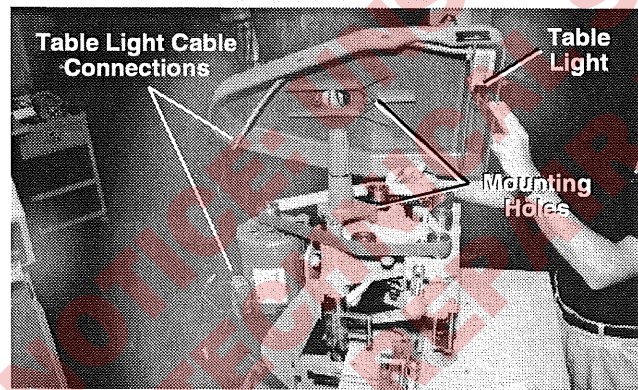

Fig. 3
1. Remove cover from protective bag and locate hardware taped to inside of cover. Place cover on the machine with the light positioned to the front, and align mounting holes, fig. 3. Insert lockwashers on screws and install in mounting holes and tighten with a $5/32$ " Allen wrench.